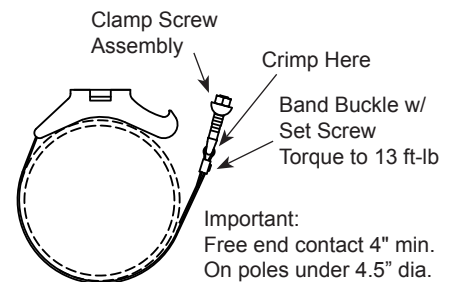

Figure 2
5. Slide a band buckle on the band with the set screw to the outside. (Figure 2)
7. Center the clamp screw on the mark and bend the band to the inside 180 degrees. (Figure 2)
8. With a pair of pliers, crimp the bend in the band around the clamp screw and slide the band buckle over the free end of the band and position as close to the clamp screw assembly as possible. Torque the set screw in the band buckle to 13 ft-lb. (Figure 2)
Note: Make certain the free end of the band is turned to the inside and is a minimum of 6" long on poles 4.5" diameter and larger. On poles under 4.5" diameter make band as long a possible. (Figure 2.)